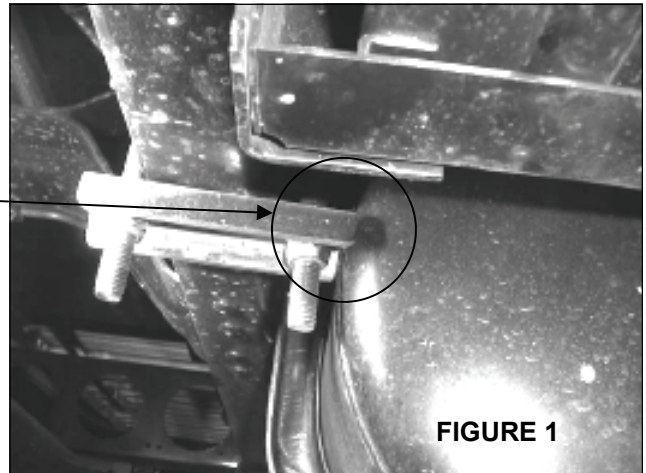

FIGURE 1
- Provide sufficient clearance at each u-bolt between the u-bolt and vehicle equipment, wiring, and tubing or hoses. Figure 1 shows a common interference problem caused by improper positioning of the body u-bolt before the u-bolt is tightened. The u-bolt plate may require trimming if the u-bolt cannot be positioned away from the fuel tank.